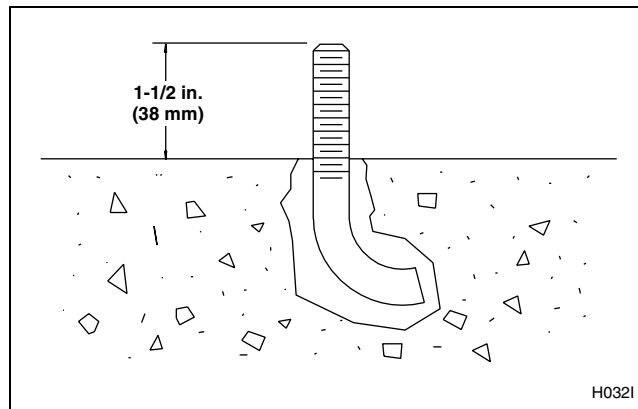

Figure 7
5. Use compressed air or a squeeze bulb to remove debris from each hole. Anchor J-bolt in place, using an industry-accepted anchoring compound. Verify that the J-bolts are in the correct locations and that 1-1/2 inches (38 mm) of each J-bolt protrude from the floor. Refer to *Figure 7*.